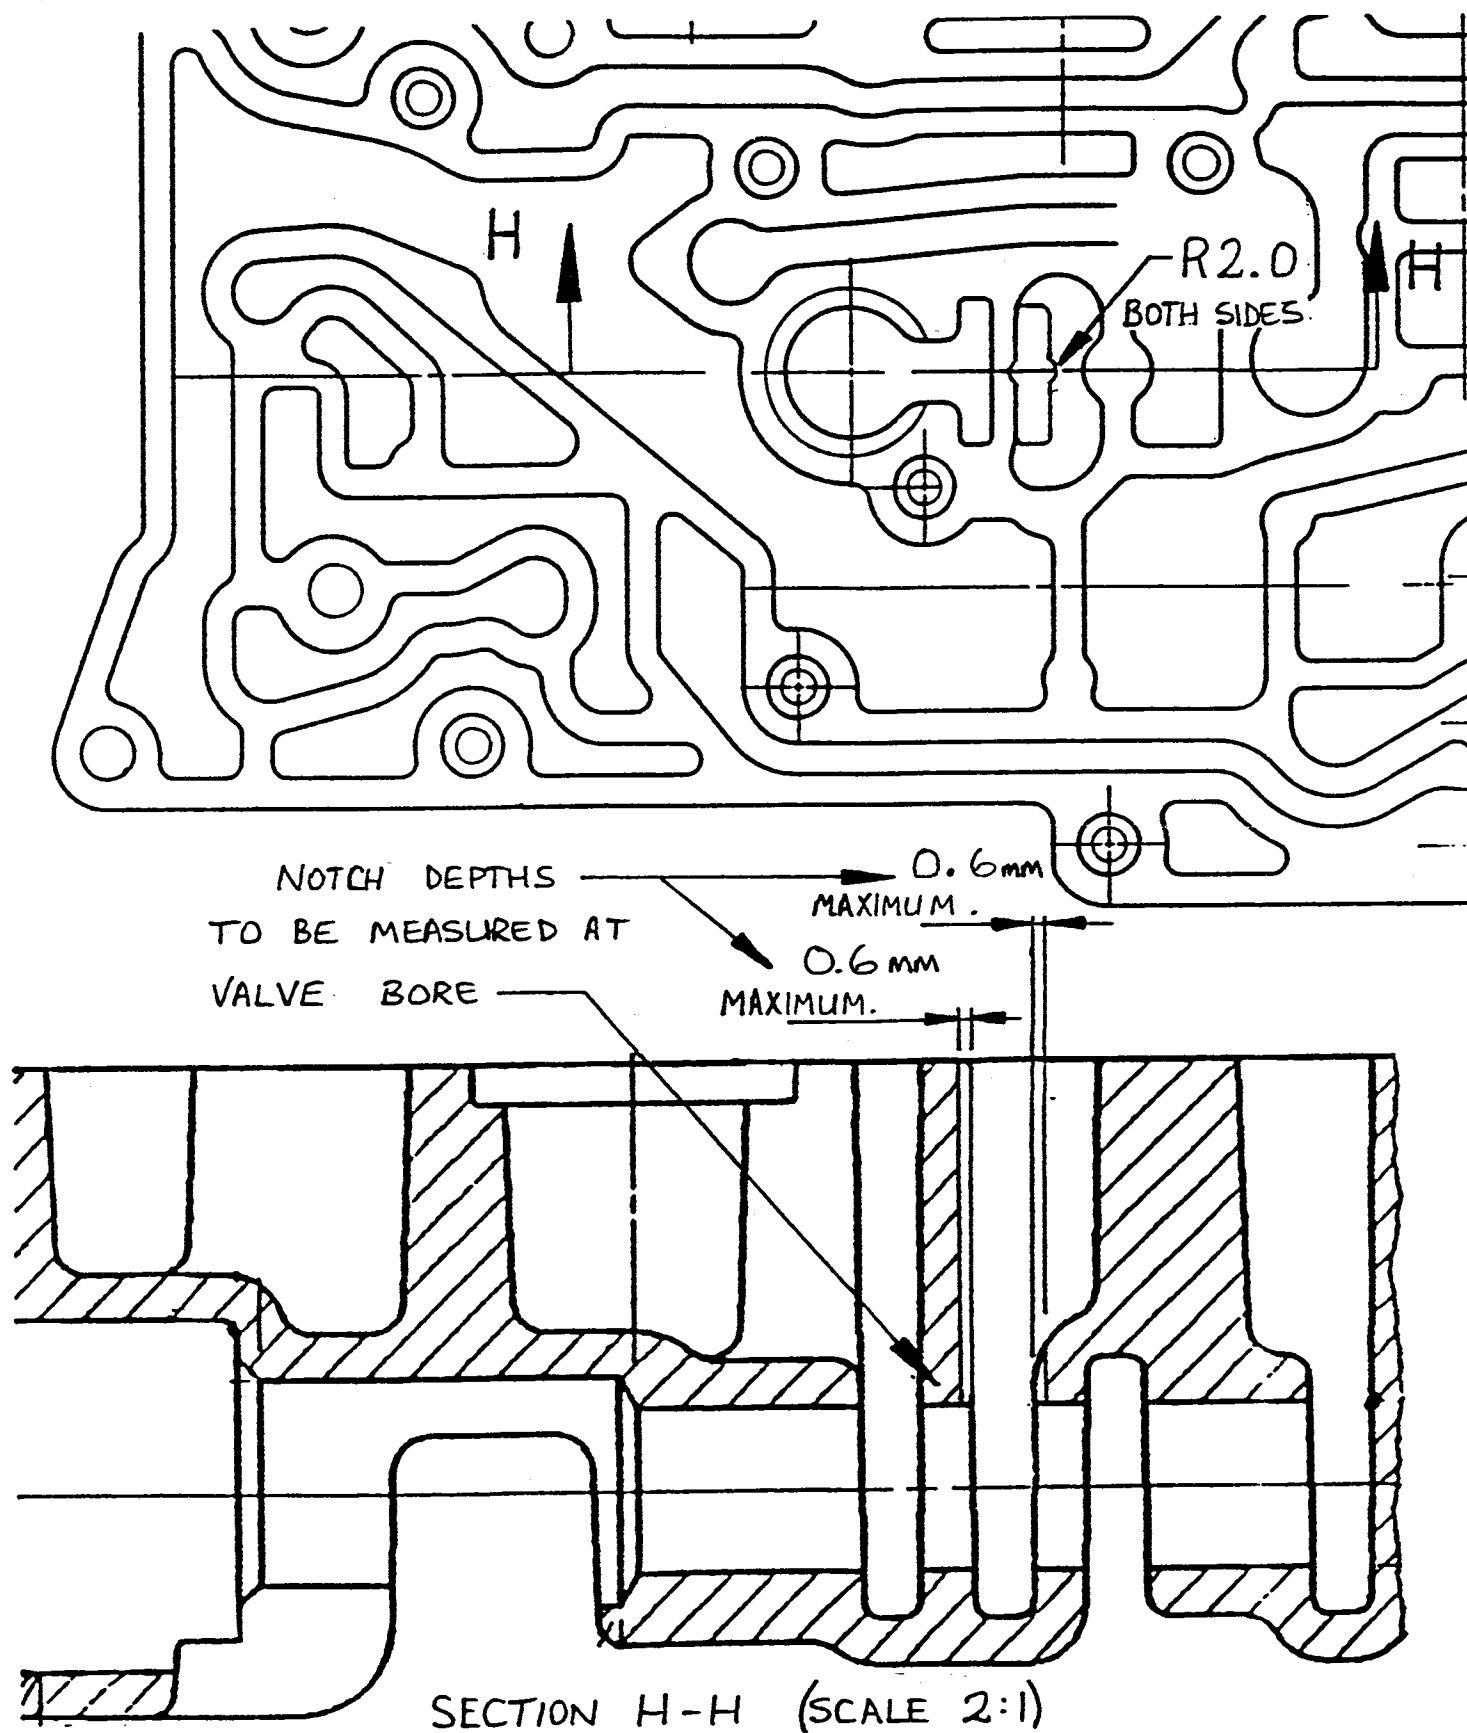

FIGURE 1: SSV NOTCH DETAILS.
- iii) Use a $\varnothing 4$ round file to cut two 0.6mm maximum deep notches as shown in Figure 1.